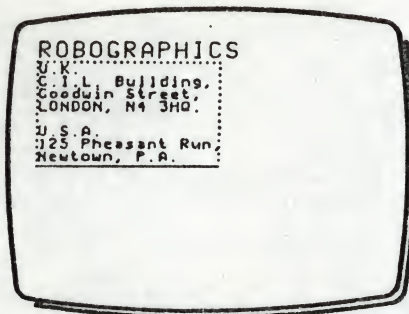

Fig 3
- 5 Press and release T to draw your address, as in Fig 3.